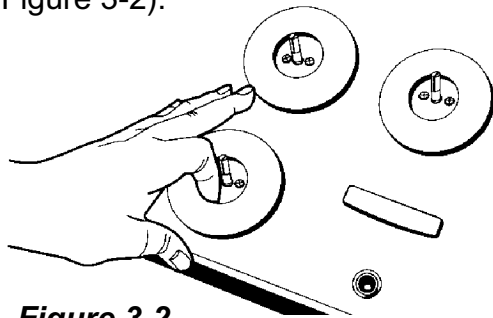

Figure 3-2
3. Unsnap the bezels and remove them. To remove a bezel, pull it toward you and lift the tabs out of the slots in the maintop (see Figure 3-2).